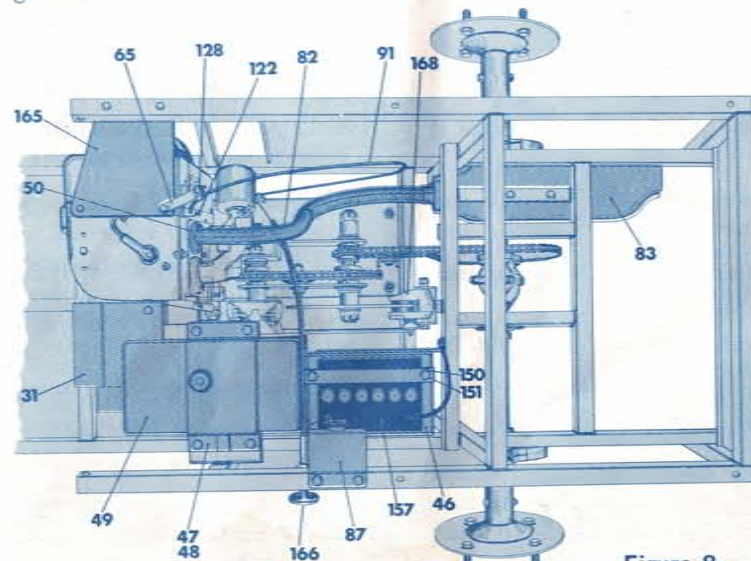

Figure 8
11. (cont'd.) Remove No.(122) throttle cable stop at engine and thread cable as shown in figure 8. Replace cable stop. Be sure that engine throttle linkage is at idle position before tightening cable stop. Tighten securely. Mount No.(128) throttle cable clip to No.(65) throttle cable bracket using bolt and nut provided. (See Figure 4 & 8.)
1. Remove No.(31) belt guard. (See Figure 8 for location.)
5. Replace No.(31) belt guard.